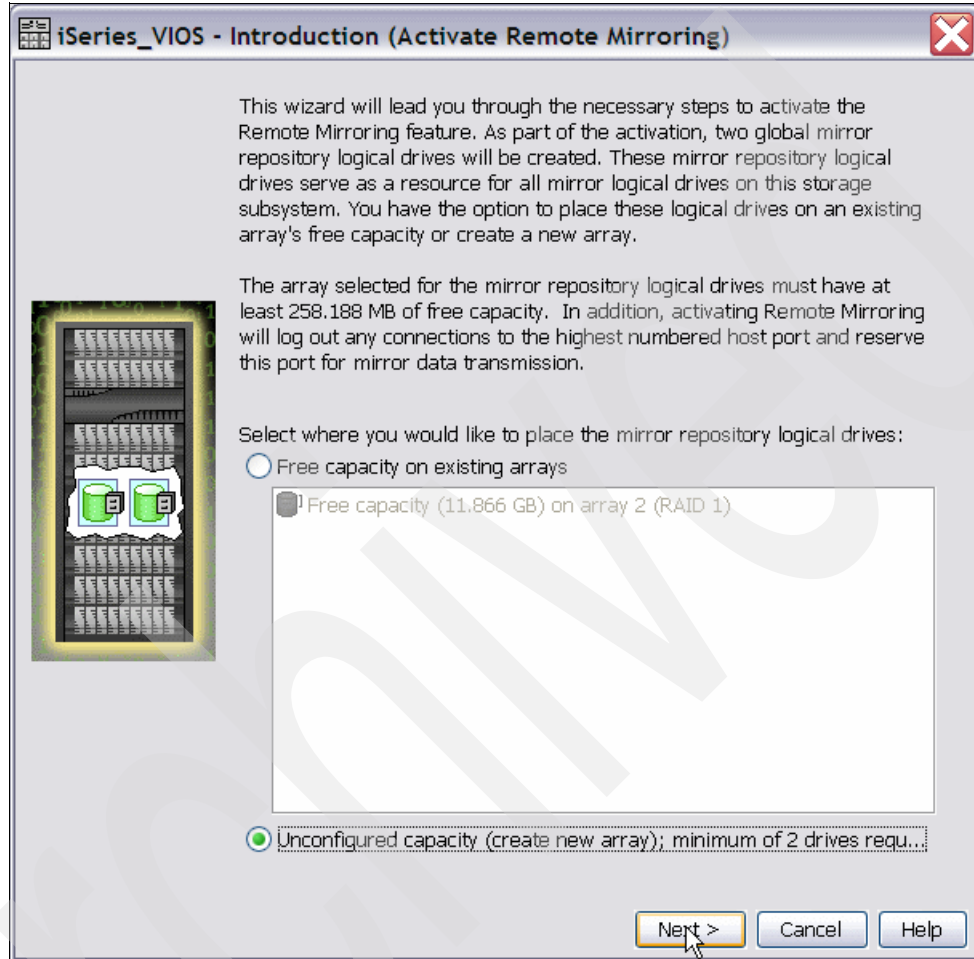

Figure 8-30 Specifying capacity for remote mirroring repository logical drives
3. While the remote mirroring feature is activated, the system assigns space for Remote Mirroring repository logical drives. Remote mirroring repository logical drives store the mirroring information, including information about the remote write request that has not yet been written to the secondary logical drive. Figure 8-30 shows the window where you specify from which array to take capacity for remote mirroring repository logical drives.